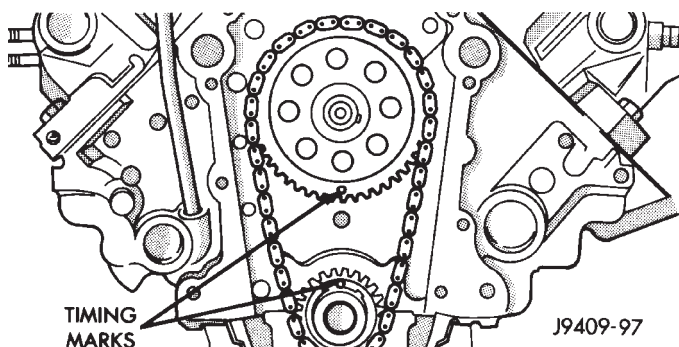

Fig. 26 Alignment of Timing Marks
(1) Place both camshaft sprocket and crankshaft sprocket on the bench with timing marks on exact imaginary center line through both camshaft and crankshaft bores.
(2) Place timing chain around both sprockets.
(3) Turn crankshaft and camshaft to line up with keyway location in crankshaft sprocket and in camshaft sprocket.
(4) Lift sprockets and chain (keep sprockets tight against the chain in position as described).
(5) Slide both sprockets evenly over their respective shafts and use a straightedge to check alignment of timing marks (Fig. 26).
(6) Install the camshaft bolt. Tighten the bolt to 68 N·m (50 ft. lbs.) torque.